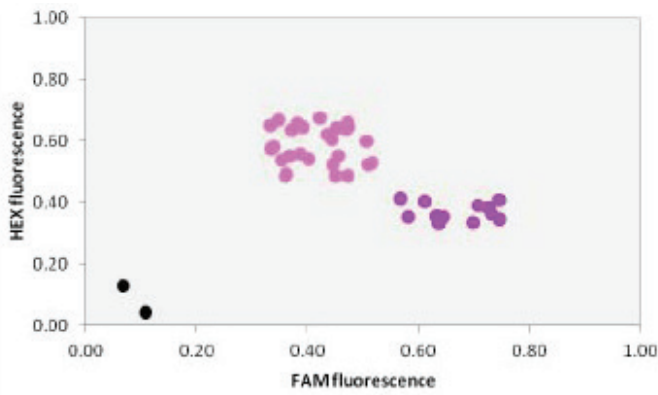
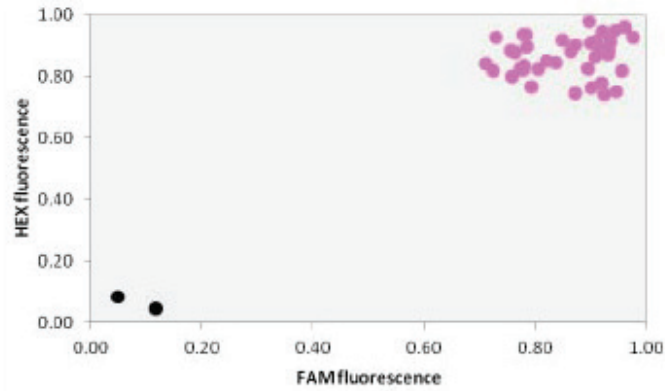

Figure 3.9A. Distinct genotyping clusters are apparent but their position on the plot is skewed.
Figure 3.9C. All of the data points cluster in one position on the plot.
**Plot characteristics:** the genotyping groups are drawing too closely together, or merging, on the data plot. Distinct genotyping groups are apparent but their position on the plot is skewed (Figure 3.9A), it is difficult to discern clear genotyping groups (Figure 3.9B), or all of the data points cluster in one position (Figure 3.9C).